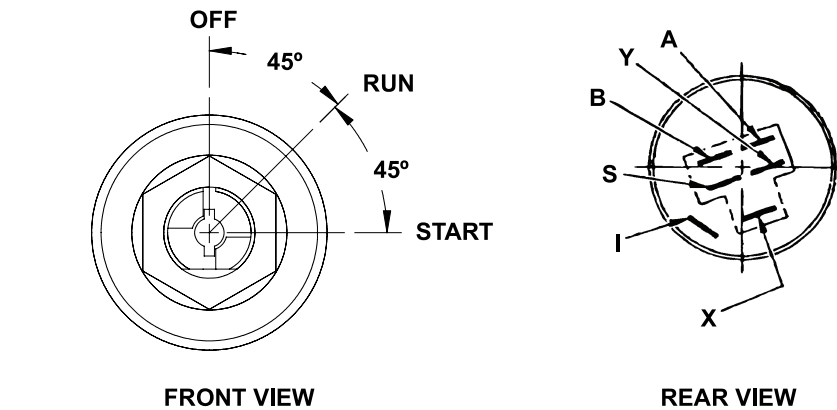

Figure 117
The key switch is located on the control panel and has three (3) positions: OFF, RUN and START (Figure 117). The Standard Control Module (SCM) monitors the operation of the key switch and reacts to the various key switch positions.
4. The key switch terminals are identified in Figure 117 and the circuitry of the switch is shown in below table. With the use of a multimeter (ohms setting), the switch functions can be tested to determine whether continuity exists between the various terminals for each switch position. Verify continuity between switch terminals.